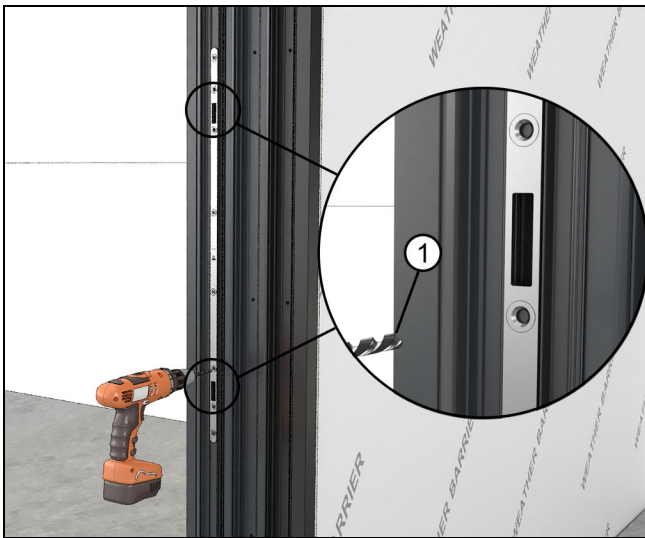

Figure 69
9. On uni-directional units, pre-drill through the open holes in the strike plate (above and below each strike) with a 3/16"(5) drill bit. See Figure 69.